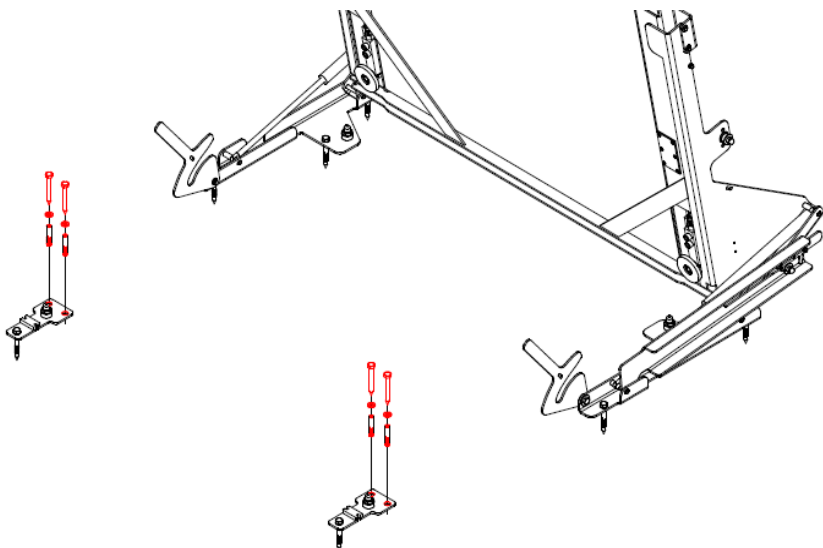

Fig.15. Assembly of the anchor bolts
11. Fix the feet with two anchor bolts per each foot (Figure 15).